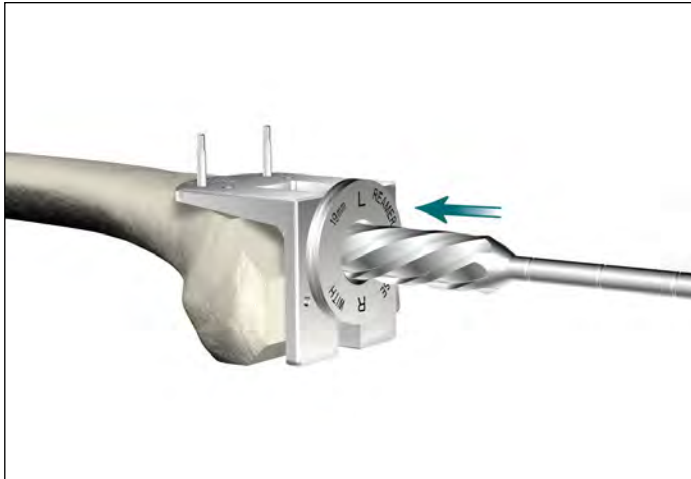

Figure 31
- Place the 19mm IM Reamer into the Femoral Boss Reamer Bushing (**Figure 31**). Ream until the groove in the cutting teeth of the 19mm IM Reamer lines up with the face of the Femoral Boss Reamer Bushing. This clears for the femoral boss in the offset position.